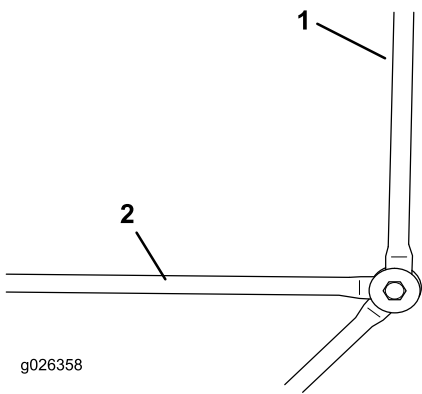

Figure 9
- From the operating position, move the entire frame assembly forward until the rear frame is at a 90-degree angle to the horizontal frame (Figure 9).